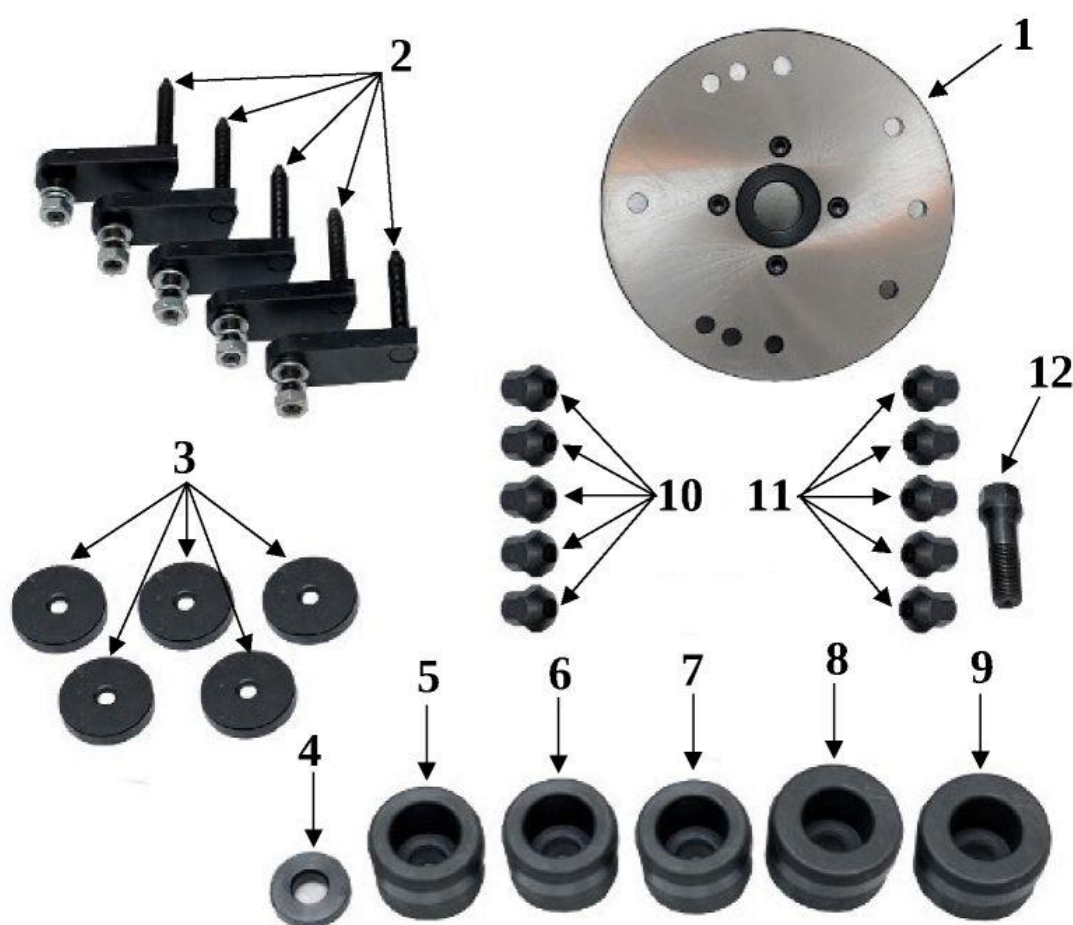

Fig. 6: Spike holder elements:
A spike holder shown and described in Fig. 6 is used for mounting wheels without a central hole. It can be fitted with wheels with 3, 4, 5 and 6 holes.
- Check, depending on the balanced wheel, which of the centering sleeves (5 ÷ 9 in Fig. 6) fits the rim hole best (if none is suitable or the rim does not have a hole on the inside, use a washer under fastening screw 4 in figure 6).
- Place the disc with the appropriate adapter 1 from figure 6 on the spindle and tighten it with the screw 12 from figure 6 with a sleeve or washer (figure 13a).
- Depending on the rim holes number screw the spikes (2 in figure 6) to the disc according to the numbers on its back. For example, if the rim has 5 holes all the spikes should be screwed to the holes with the number 5 on the back of the disc (figure 13b), if the rim has 6 holes, use 3 pins, screw to the holes with the number 3 and put them every other hole in the rim. The spikes should be tightened using the attached nuts and washers in such a way that they do not unscrew but at the same time that you can turn the pin tightly (first a flat washer, then a springy one and then the nut). If there is enough space place the pin plates with the recess facing outwards and then position them so that the wheel can be inserted into the holder (figure 13c).
- To screw the wheel to the holder (figure 13d) use a conical nut (10 in figure 6) or a spherical nut (11 in figure 6) depending on the nuts/bolts which attach the wheel to the vehicle.